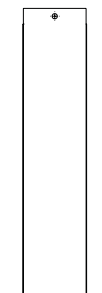

Figure 38
2. The brackets have a perforation located on each end. Bend them at the perforation. (See Figure 38)